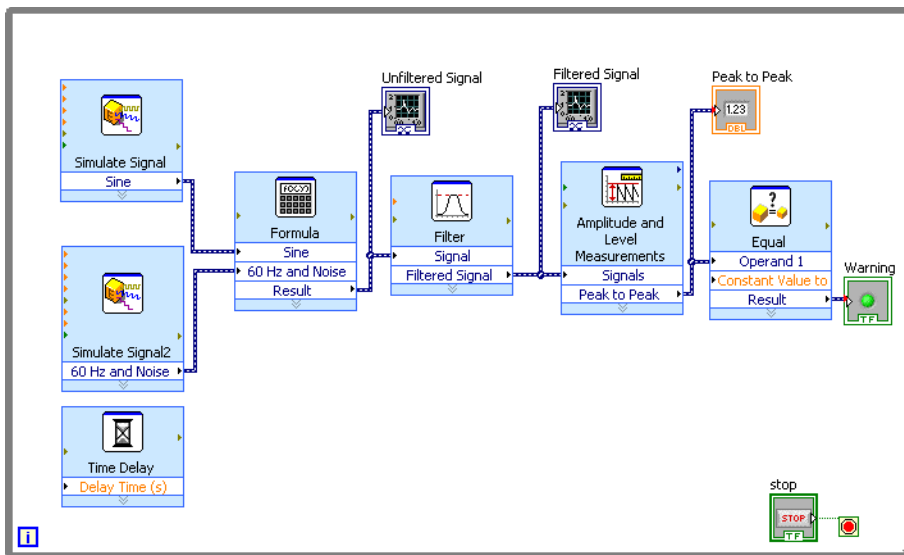

Figure 3-4. Block Diagram of the Warning Light VI
1. In the block diagram window, move the **Warning** terminal to the right of the Greater Express VI. Make sure the **Warning** terminal is inside the While Loop, as shown in Figure 3-4.
The block diagram should appear similar to Figure 3-4.